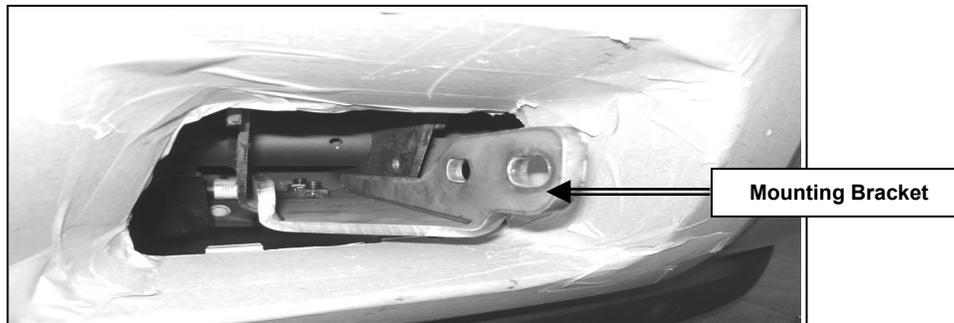

Figure 1
- 4.** Insert driver side Mounting Bracket into front of frame (Figure 1).